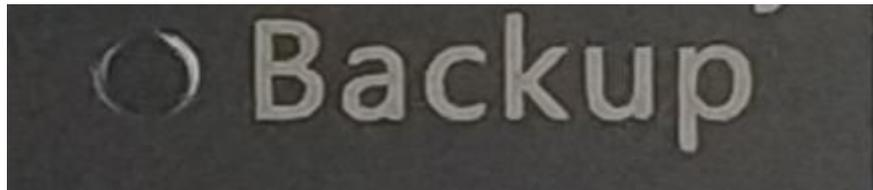

Figure 3 Backup button
(1) Check : ① In the process of backup and recovery, the machine is not allowed to connect to external storage devices such as USB flash disk, or there will be errors in the backup and restore operations. ② We must ensure that the hard disk capacity is not less than 64GB.
(2) In the shutdown state, find the Backup button on the case (as shown in figure 3), then you have to press the power button until you enter the Ghost interface.